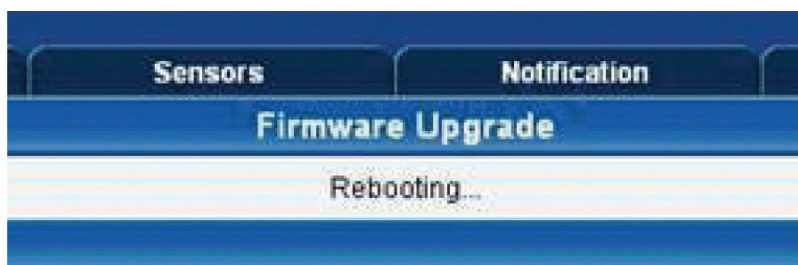

Figure 3-10. Firmware Upgrade Rebooting screen.
4. Click "OK." The unit will reboot in Safe Mode. Then you will be redirected to the Safe Mode Web-based interface. This can take some time, so please be patient. The page will display the message shown in Figure 3-10 when rebooting.